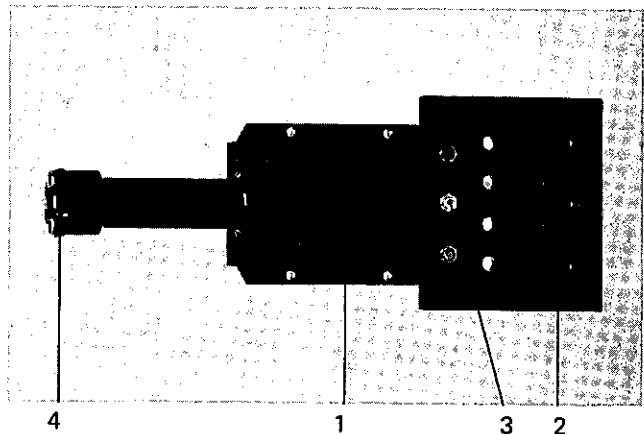

Fig. 8 Fastening the crucible block to the base plate
- a. Attach the base plate (Fig. 8, item 2) to the crucible block (Fig. 8, item 1) with the two M5 · 20 screws. The threaded hole (Fig. 8, item 3) is used for attaching the return conductor of the anode circuit.
- b. Push the gold wire seal (ϕ 1 mm) over the crucible part (Fig. 8, item 4).